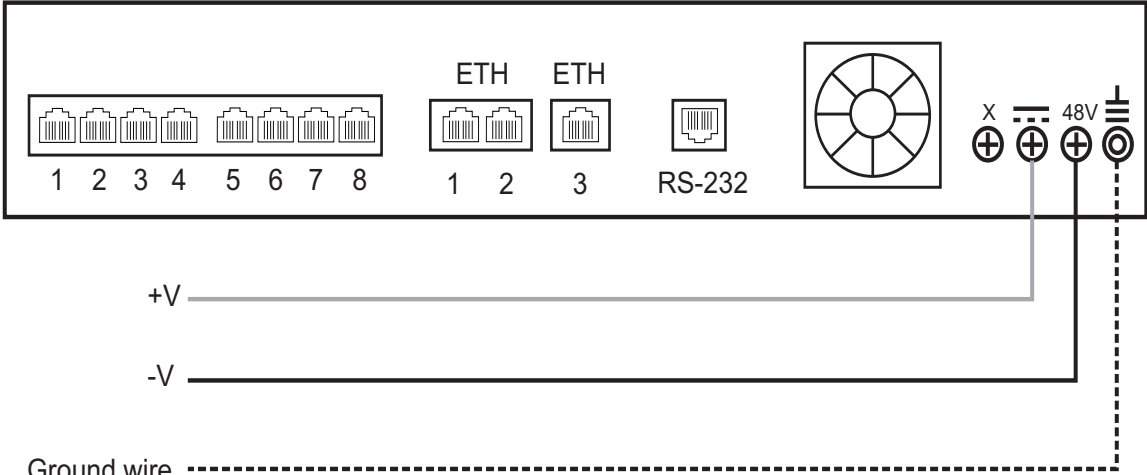

Figure 2.9 TMP800 DC wiring diagram
1. Connect a ground wire to the ground lug located at the rear of the TMP800, as shown in Figure 2.9 on page 17.